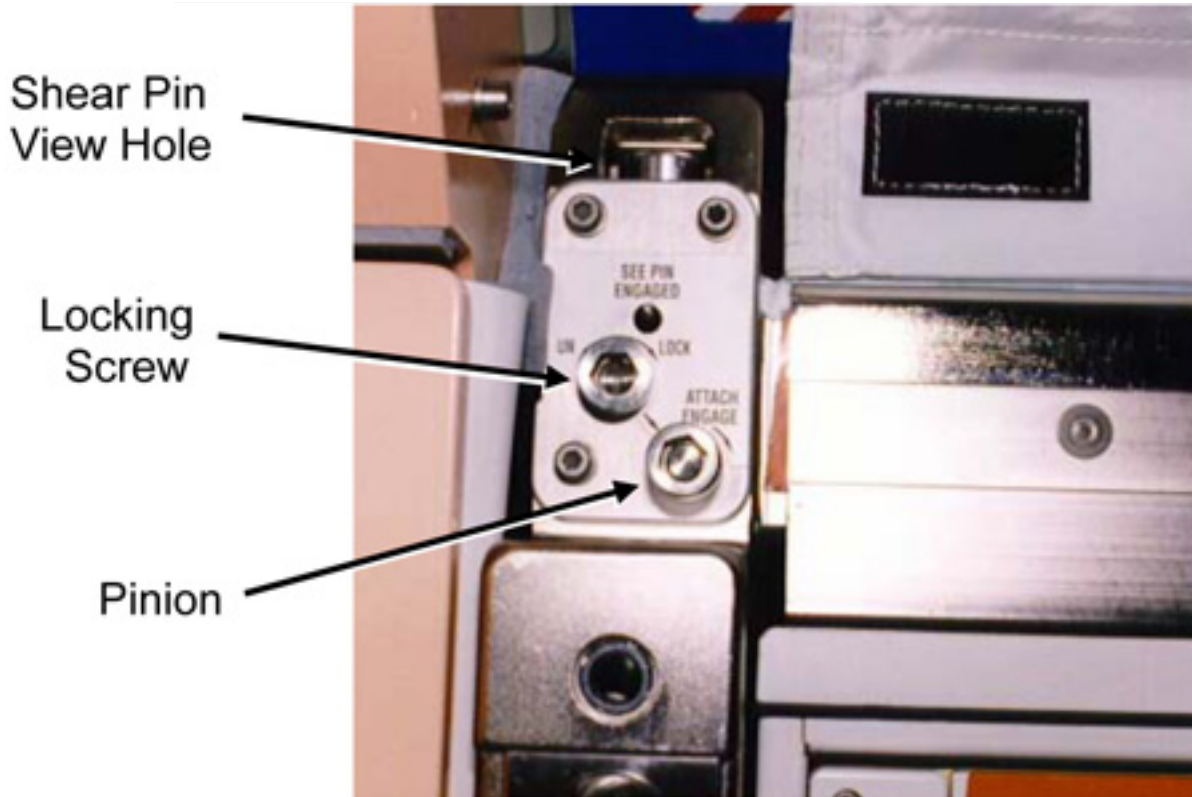

Figure 4. Upper Attach Mechanism, Left Side, Typical.
- 3.1 Loosen left Locking Screw 10 to 12 turns or until threads completely disengage (Ratchet, 3/8" Drive; 6" Long, 3/8" Hex Head, 3/8" Drive). Refer to Figure 4.
- 3.2 Disengage left Pinion one full turn until hard stop (Ratchet, 3/8" Drive; 6" Long, 3/8" Hex Head, 3/8" Drive). Refer to Figure 4.